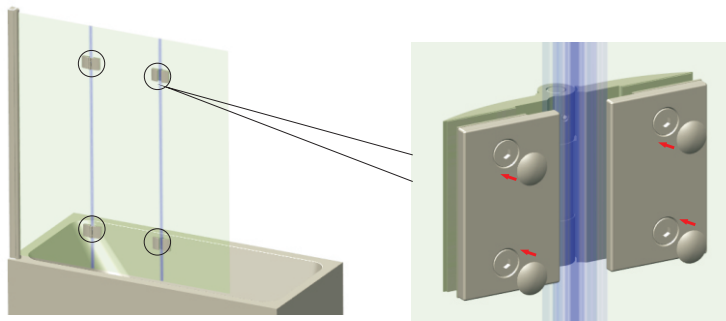

FIG 9
9. Fix the cover caps (M7012) to both hinge. **Fig 9.**